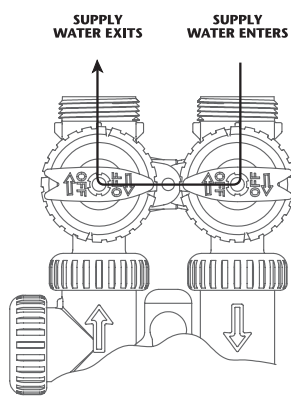

FIGURE 2
2. **BYPASS POSITION:** The inlet and outlet handles point to the center of the bypass. The system is isolated from the water pressure in the plumbing system. Untreated water is supplied to the building (**Fig. 2**).
1. Rotate bypass handles to the bypass mode (**Fig. 2 on page 4**).
1. With the softener in the bypass mode (**Fig. 2 on page 4**) and the control valve in normal operation where the display shows either the time of day or the gallons remaining, manually add 3" of water to the brine tank.